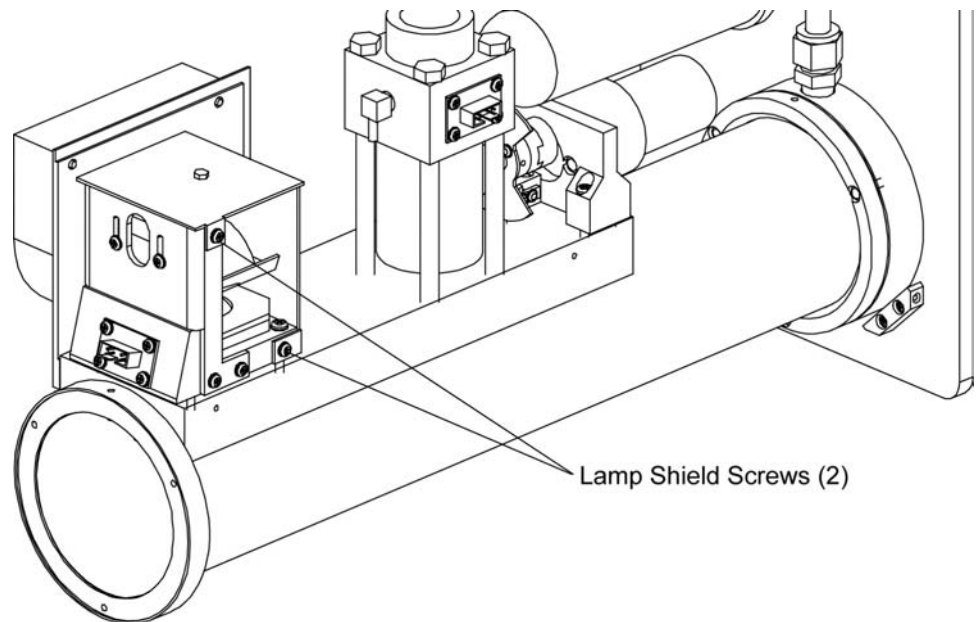

Figure 8-23
4. Unscrew the two screws attaching the lamp shield (Figure 8-23). Remove the shield, supporting the shield so that it does not hang by the sensor wires.
- 11.** Using Figure 8-23 as a reference: